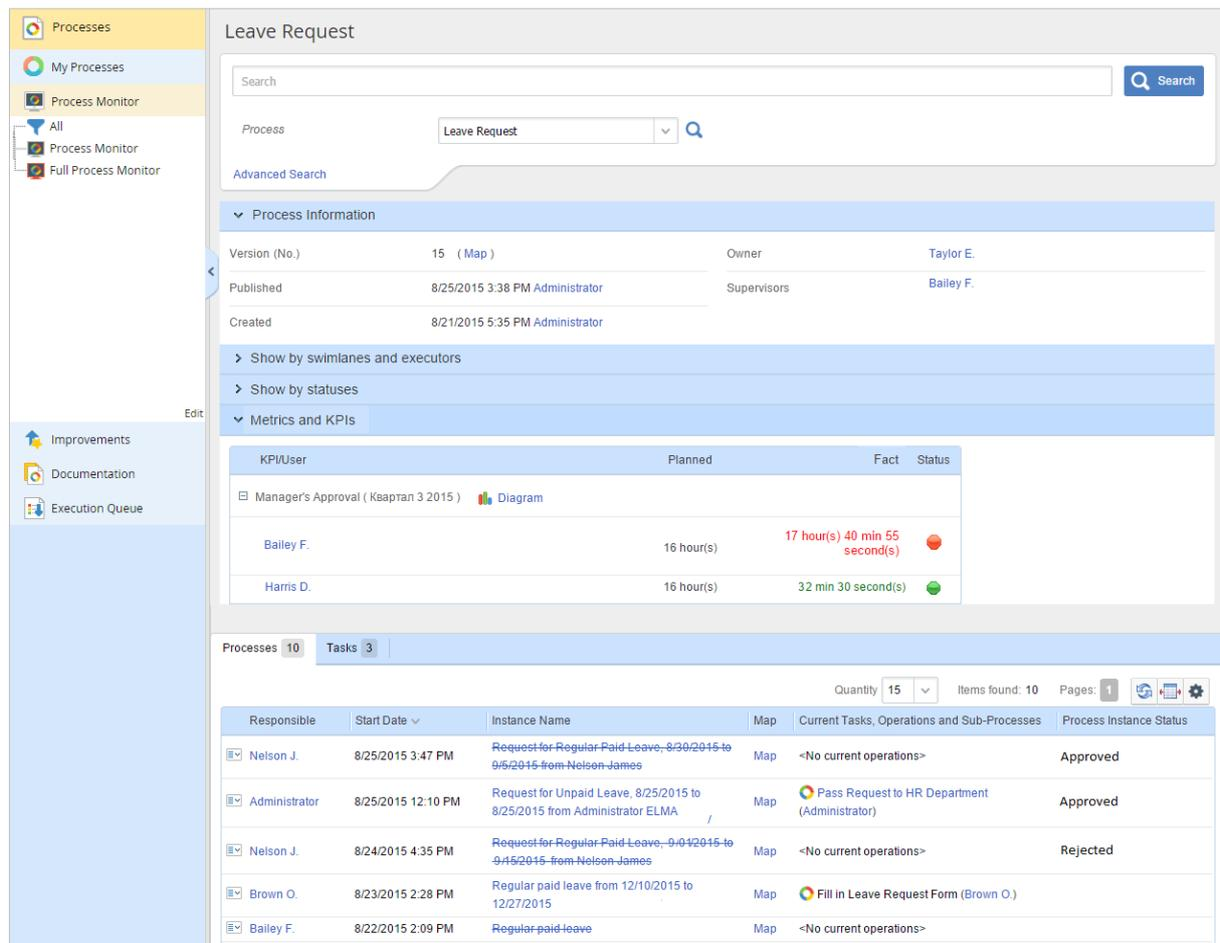

Fig. 174. The process KPI in the Process Monitor section
**ELMA** will display the created KPI on the process page, in the **Process Monitor** section (Fig. 174).